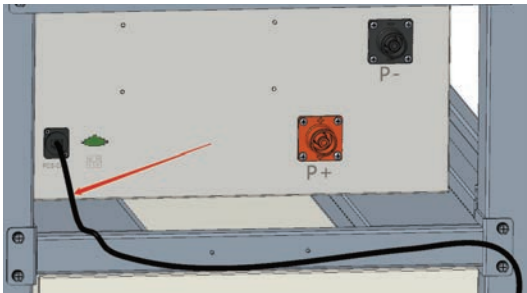

Figure 2.10
(6) The main control box communication CAN line is connected to the PCS communication CAN line. Plug in and lock the main control box CAN communication plug, and lock the PCS communication CAN port. (Figure 2.10).